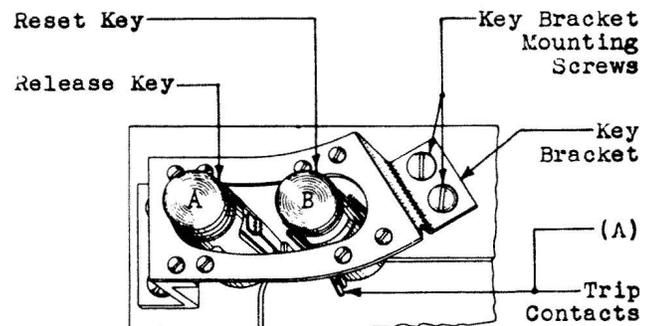

Fig. 23 - Release and Reset Keys
2.25 **Contact Pressure** - Fig. 23 (A): With the trip contact springs in their normal position, the pressure at the contacts shall be: